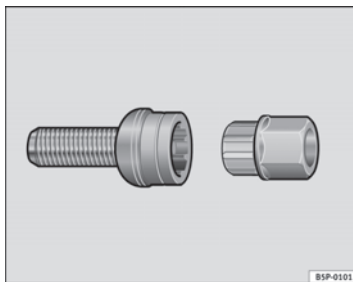

Fig. 182 Anti-theft wheel bolt
- Insert the adapter onto the wheel bolt and push it on as far as it will go ⇒ **fig. 182**.